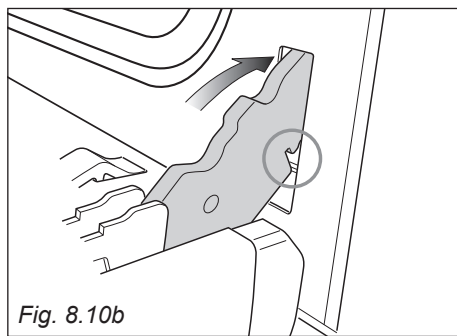

Fig. 8.10b
2. Insert the hinge tongues into the slots, making sure that the groove drops into place as shown in the figure 8.10b.